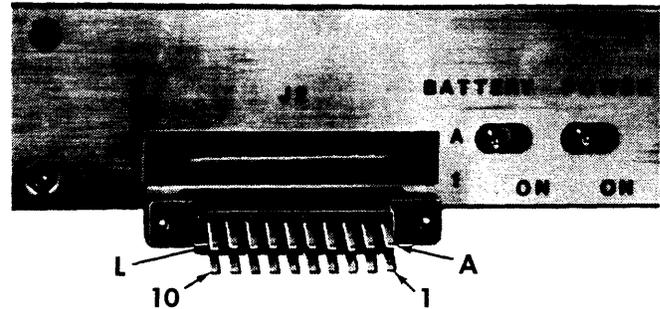

Fig. 3 - Position of 20-Pin Edge Connector for Installation on Control Processor Chassis
2.09 The 20-pin edge connector, packed with the Control Processor Chassis, is to be installed in the rectangular opening labeled "J2" on the rear panel of the C.P. Chassis (see figure 3). Edge connector pin numbers, molded into the plastic base just next to the pins, identify the two rows of 10 pins each. One row is labeled (from right to left) "A" through "L", the other row labeled (from right to left) "1" through "10". The edge connector must be positioned with the "A" through "L" row at the top, the "1" through "10" row at the bottom, as illustrated, so that the proper pins line up with the letters "A" and "L" and the numbers "1" and "10" printed next to the "J2" opening on the chassis rear panel.